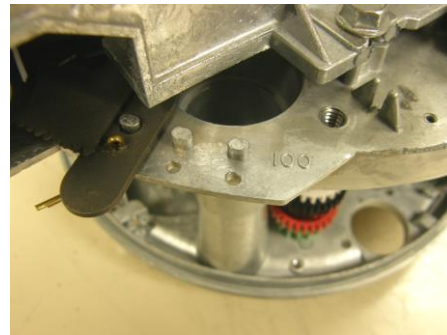

Figure 1b: Dollar Shift Lever
- 2.) Check that the dollar shift lever is in the "200" position (the left most stud). If shift lever is not in the "200" position then remove cotter pin, lift up the shift lever and shift to the "200" position. Make sure shift lever is fully seated in "200" position, and then install cotter pin (Figure 1b).